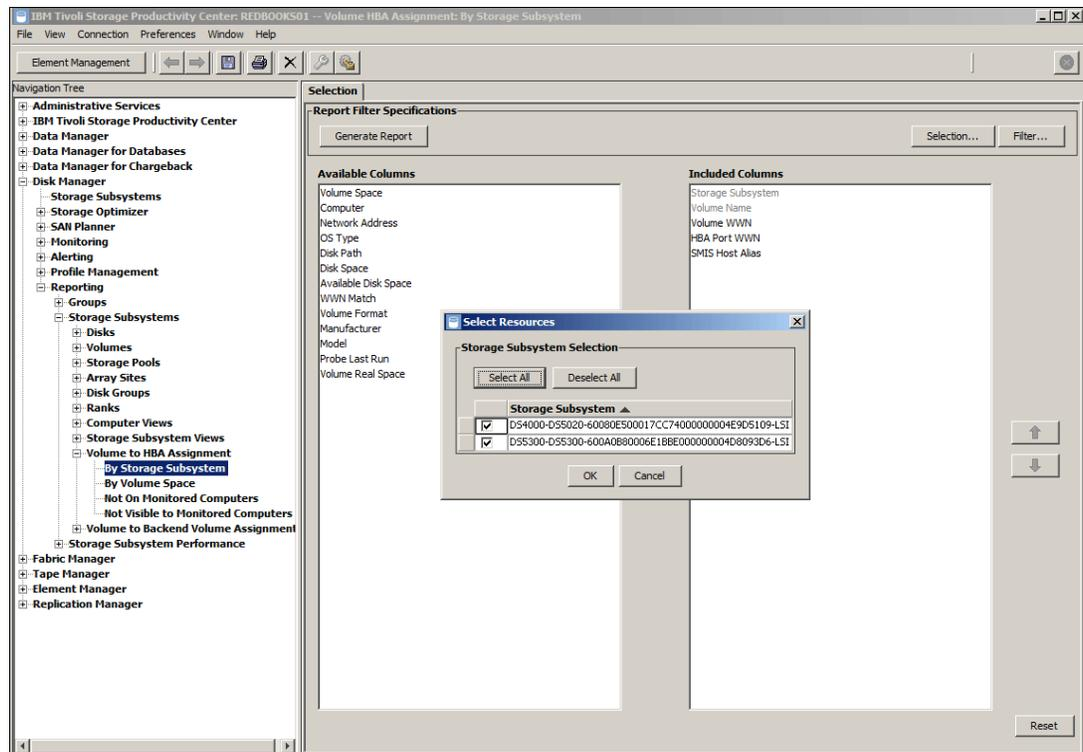

Figure 9-47 Volume to HBA assignment, select storage subsystems
1. Expand **Disk Manager** → **Reporting** → **Storage Subsystems** → **Volume to HBA Assignment** → **By Storage Subsystem**. Remove unnecessary information from the Included Columns into Available Columns, and click **Selection** to select the storage subsystems for which you want to create this report. In our example, we only include Volume WWN, HBA Port WWN, and SMI-S Host Alias, and selected both DS5300 and DS5020 storage subsystems known to our TPC environment, which is shown in Figure 9-47.